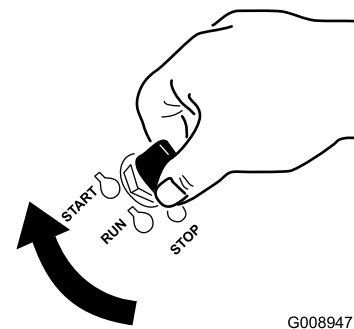

Figure 20
1. Turn the ignition key to the START position (Figure 20).